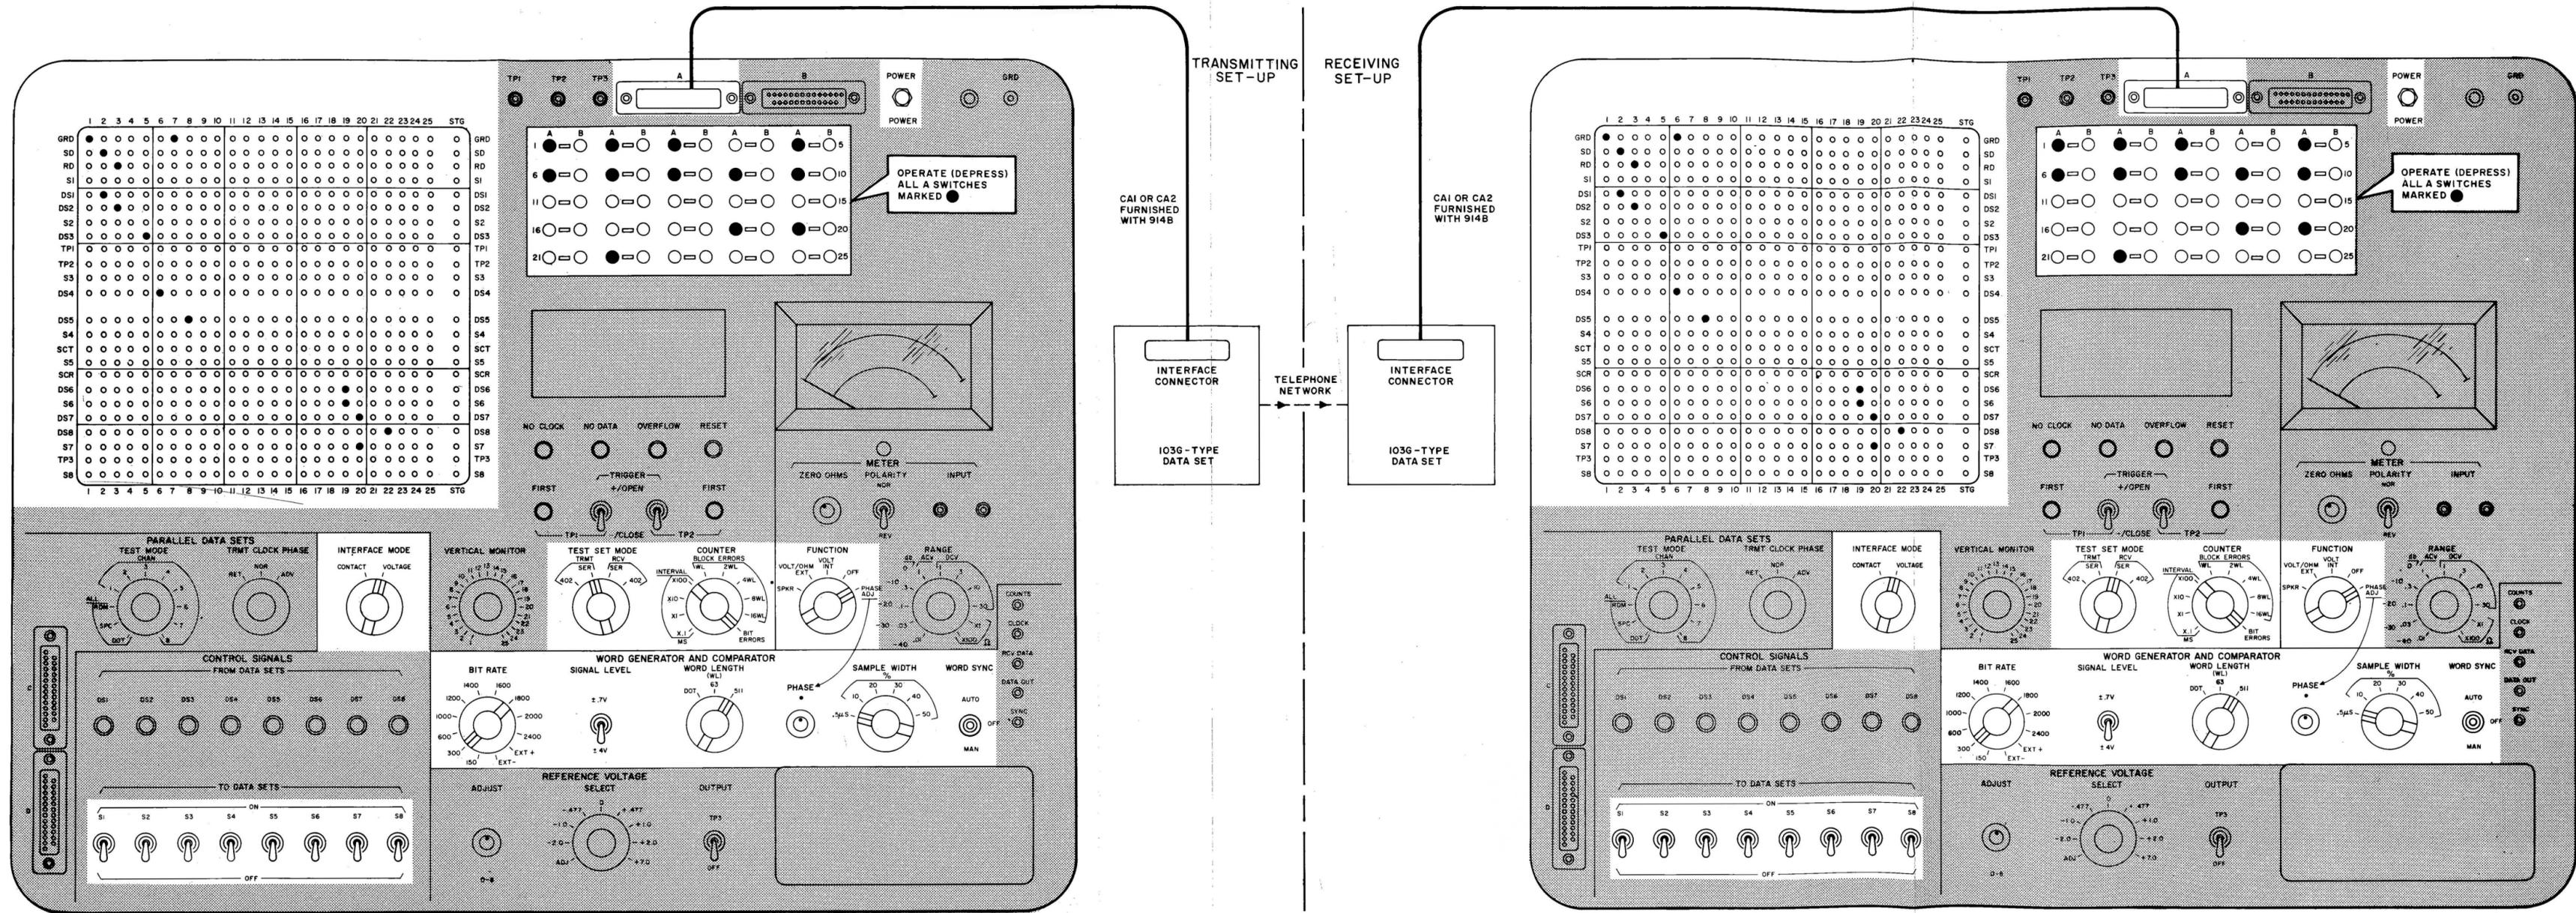

Fig. 6—End-to-End Test Connection Arrangement Using 914B Data Test Set
**3.11** The test connection diagram (Fig. 6) shows the equipment setup at the two terminals for testing one direction of transmission. The TEST SET MODE switch must be changed from TRMT SER to RCV SER at the transmit station
1	At transmit terminal 914B DTS— Set switches and program matrix as shown in Fig. 6.
3	At receive terminal 914B DTS— Set switches and program matrix as shown in Fig. 6.